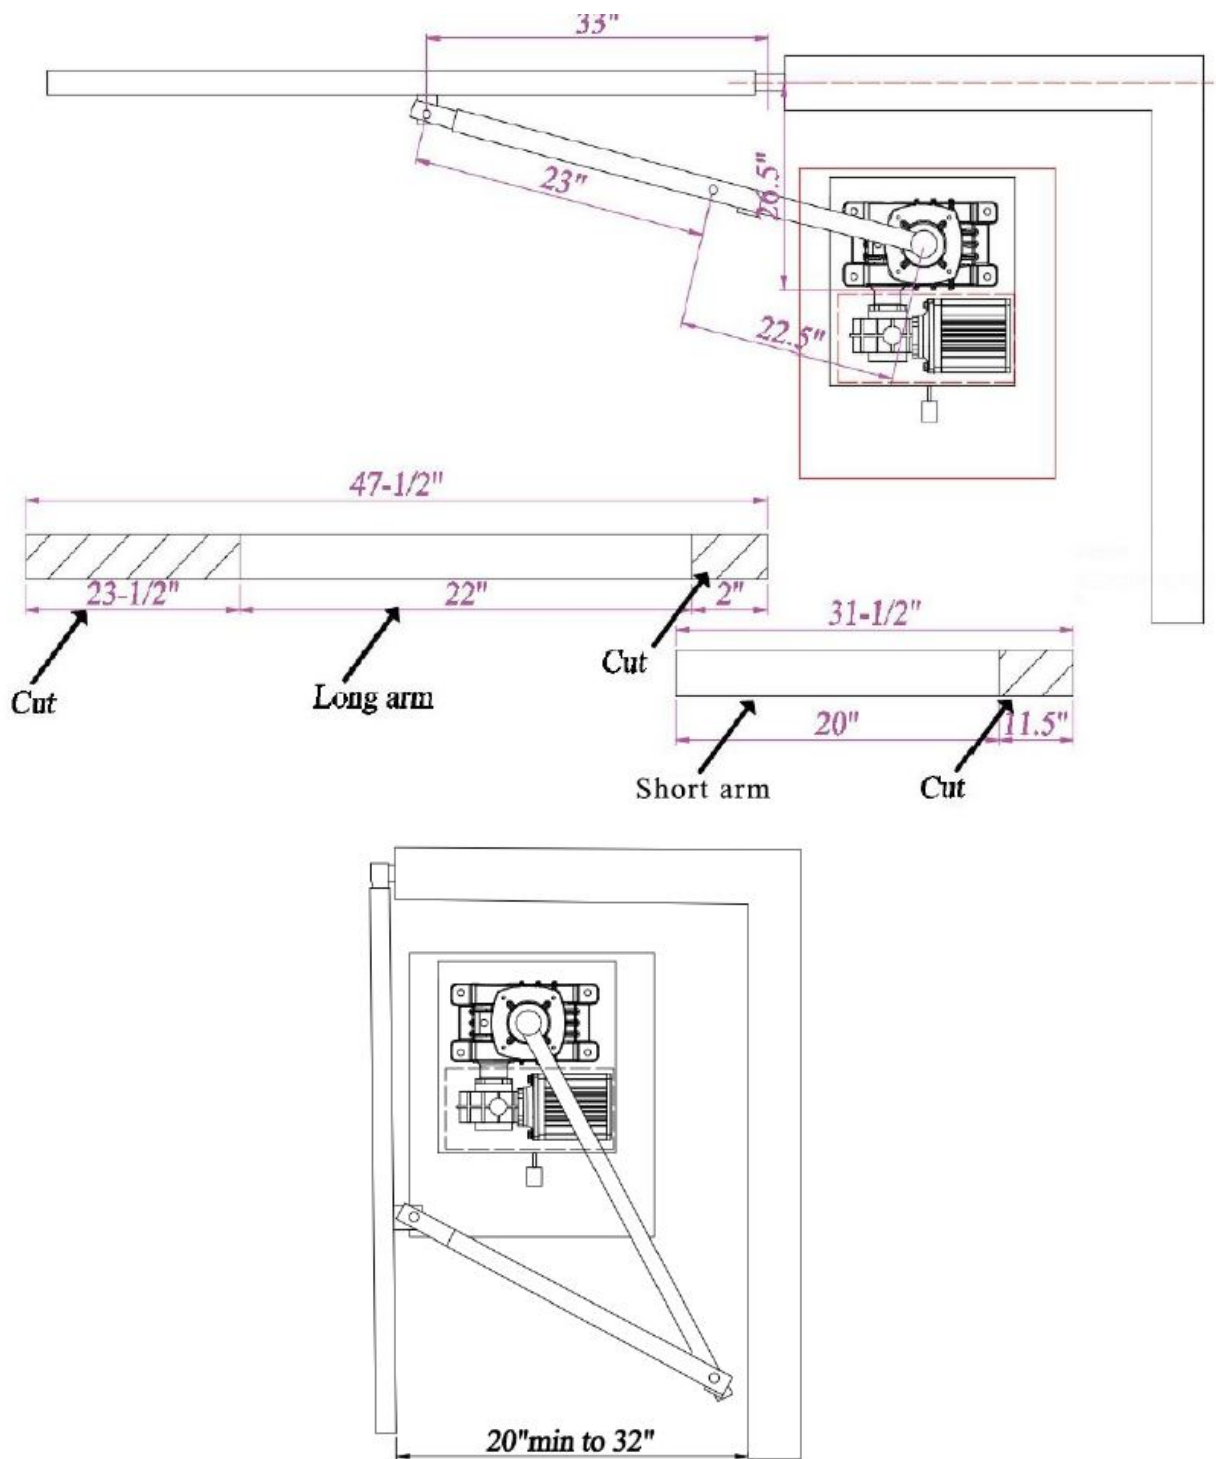

Figure 7
- **B. NOTE:** If dimension between open gate and wall is 20" to 32" then compact installation is necessary. (See Figure 7)